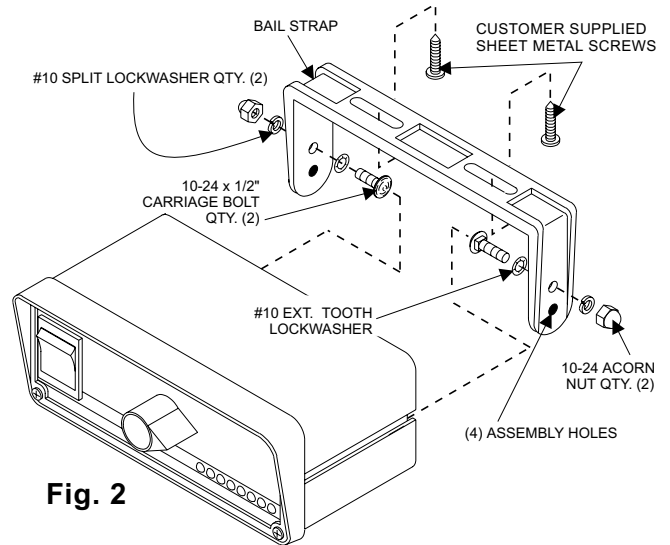

Fig. 2
NOTE: There are two sets of holes on either side of the Bail Strap that can be used when installing the Tactrl1, to position the control head at two different heights (see Fig. 2).
4. With the bail strap in place, insert the carriage bolt along with the external tooth lockwasher into the assembly hole from the inner side of the Bail Strap as shown in figure 2.